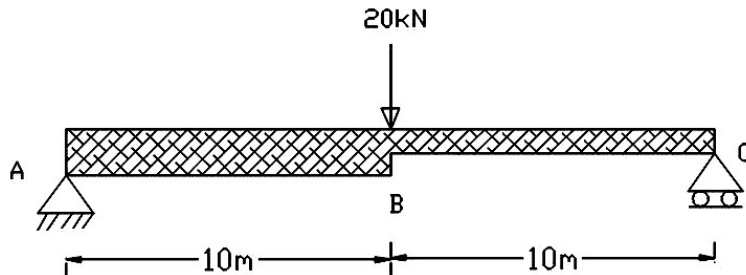

Fig. 6
8. (a) Evaluate the value of deflection and rotation at the midpoint (at point B) of the simply supported beam shown in Fig.6 using conjugate beam method. Assume EI between A to B is 2EI and that of B to C is EI.